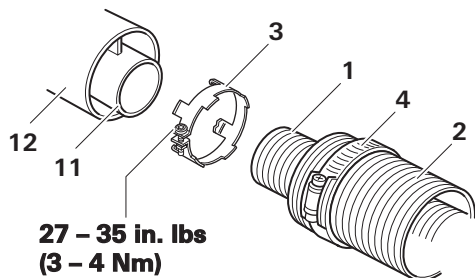

Fig. 15
1. Slide the hose clamp (Fig. 15 – 4) onto the combustion-air supply tube (Fig. 15 – 2).
2. Slide the hose clamp (Fig. 15 – 4) with the claws facing the furnace over the exhaust tube (Fig. 15 – 1).
3. Slide the exhaust tube (Fig. 15 – 1) into the connection (Fig. 15 – 11) until it fits snugly.
4. Slide the exhaust tube clamp (Fig. 15 – 3) onto the connection until it fits snugly. The end stop must be surrounded by the clamp's claws.
5. Tightly screw the exhaust tube clamp (Fig. 15 – 3).
6. Slide the combustion-air supply tube (Fig. 15 – 2) into the connection (Fig. 15 – 12) and use the hose clamp (Fig. 15 – 4) to secure it.